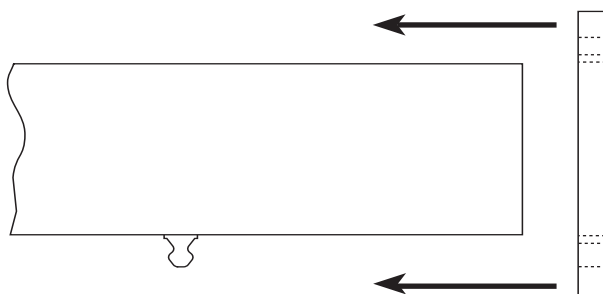

Figure 2: Install weld-mount bracket on cam tube
4. Slide the "Cam tube mounting bracket" (Item 10) onto the end of the cam tube assembly (Figure 2) until it contacts the "Cam bracket L leg" (Item 7).
6. Install the four $\frac{5}{16}$ inch nuts and bolts (items 6 & 11). Tighten to 24-29 ft. lbs. (32.5-40 N•m) of torque.